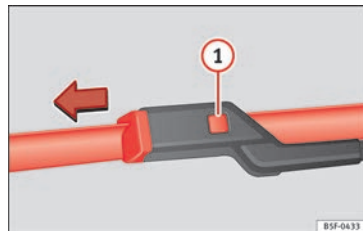

Fig. 77 Changing the front wiper blades
- Press and hold release button » » Fig. 77 ❶ and pull gently on the wiper blade in the direction of the arrow.